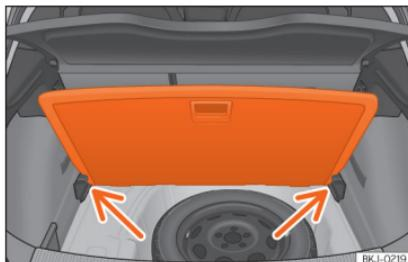

Fig. 129 Variable luggage compartment floor: inclined position.
- Rest the floor on its housings »» Fig. 129 (arrows).